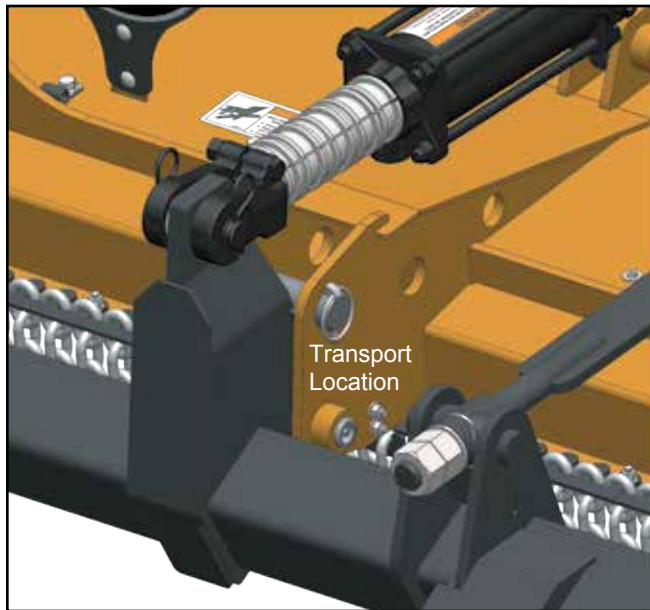

Figure 4. Transport Lock Pin in Standard & Narrow Width Positions
2. Remove klik pin and lock pin from storage position (Figure 4).